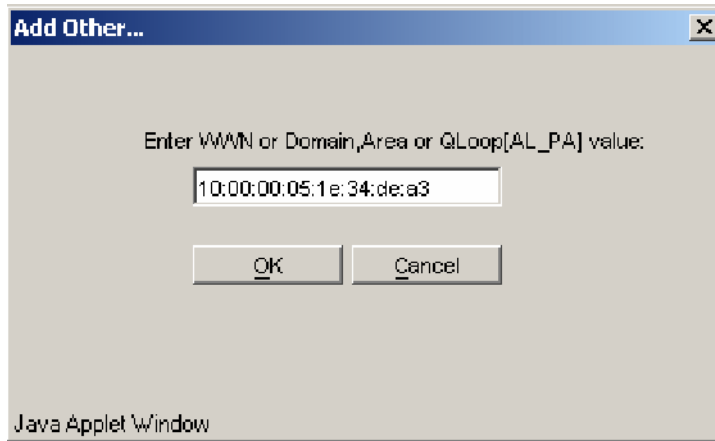
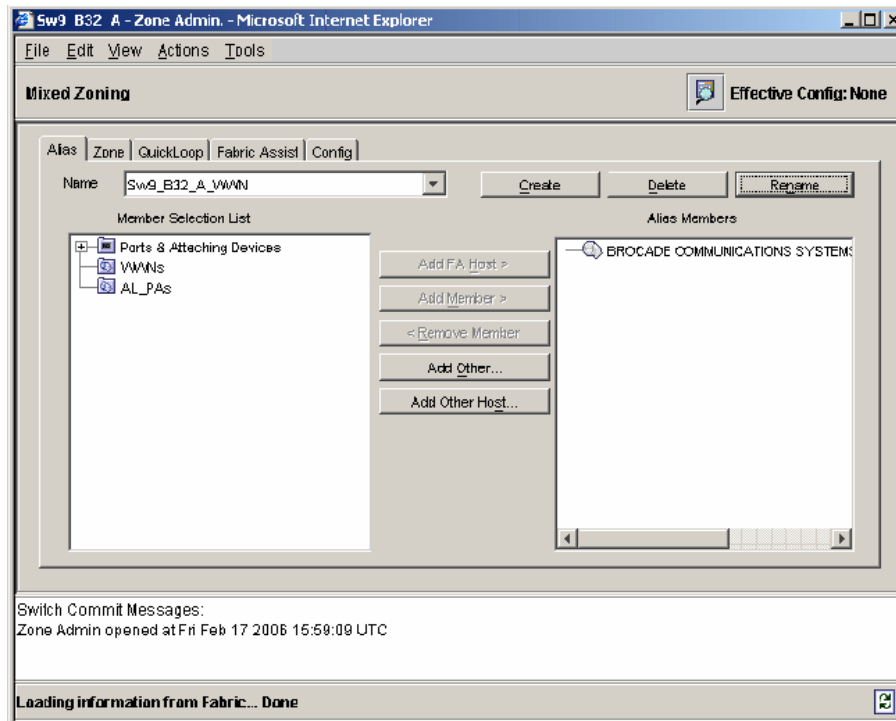

Figure 5-35 Creating an Alias
Figure 5-36 Defining the Alias
4. Enter the WWN of the device and click **OK** (Figure 5-35). The window shown in Figure 5-36 should appear.